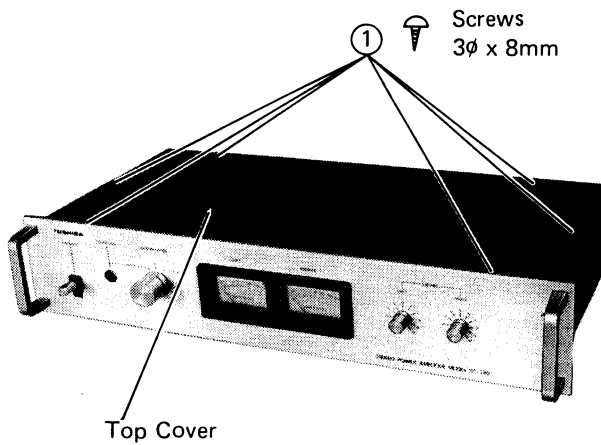

Figure 4
1. Remove six screws ①. See figure 4.